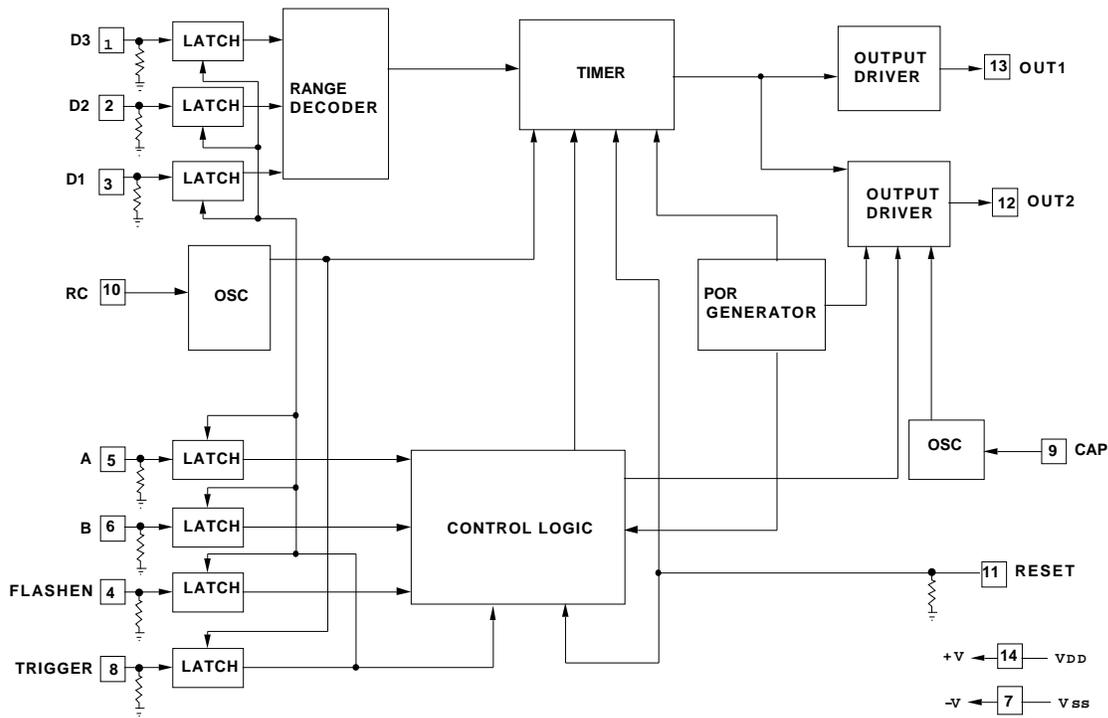

FIGURE 2. LS7213R BLOCK DIAGRAM
**NOTE:** A POR circuit (See Fig. 2) generates a reset upon power up that produces the same conditions described for **Reset** (Pin 11).